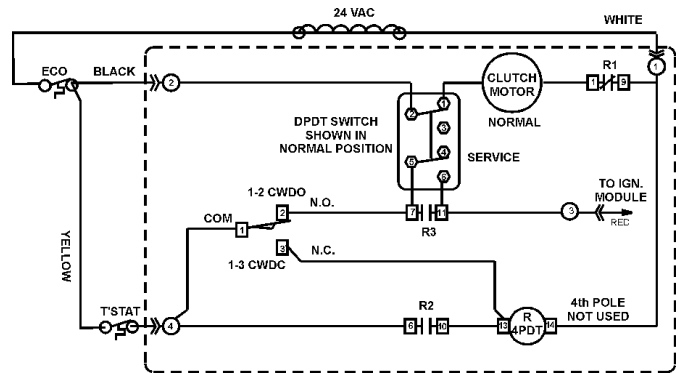

FIGURE 18
- During the motor operation the mechanically operated switch S1 changes operating position and returns to the position noted in fig. 18.